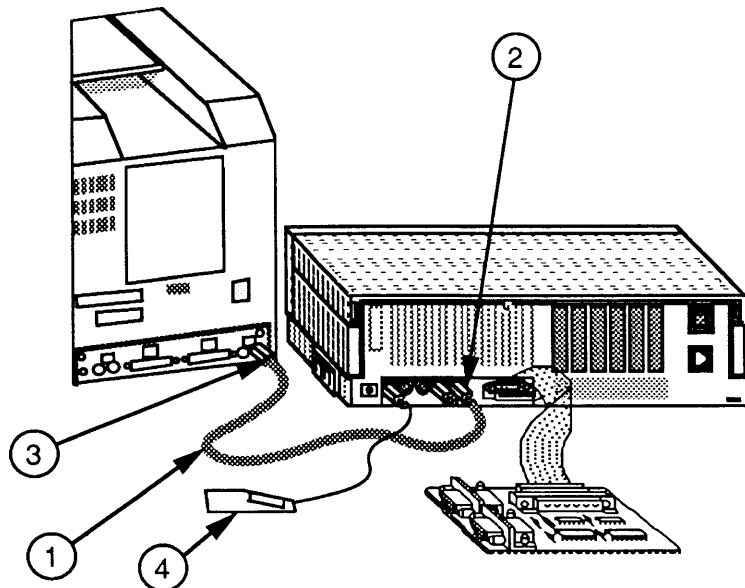

Figure 3-6
7. Connect one end of the serial port cable (Figure 3-6, #1) to the modem port (Figure 3-6, #2) on the UUT.
8. Connect the other end to the modem port (Figure 3-6, #3) on the test station.
9. Connect a keyboard or mouse (Figure 3-6, #4) to the UUT.